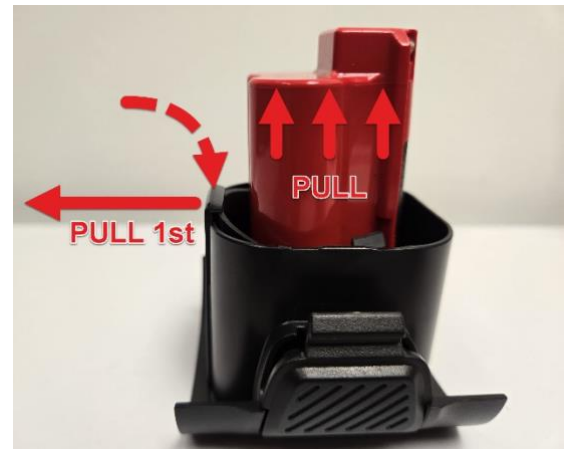

Figure 5 - Removing battery from cover
1. Remove the original battery from the 'PLANIX R1' battery door by pulling the retaining tab away and then pulling out the battery (see Figure 5).